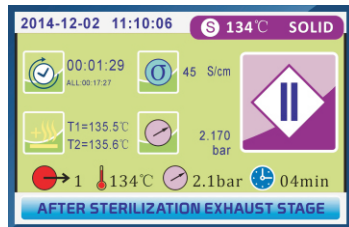

Fig.5.3-27
5.3.2.10.AFTER STERILIZATION EXHAUST STAGE(Fig.5.3-27)